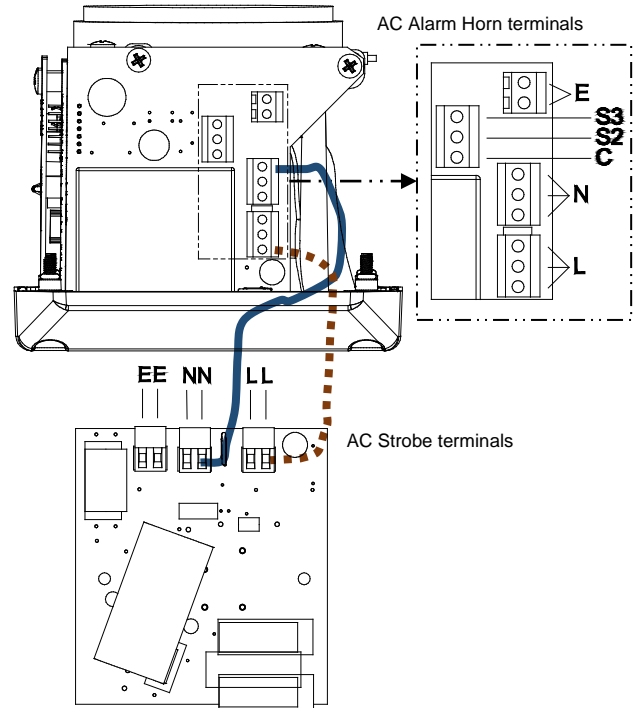
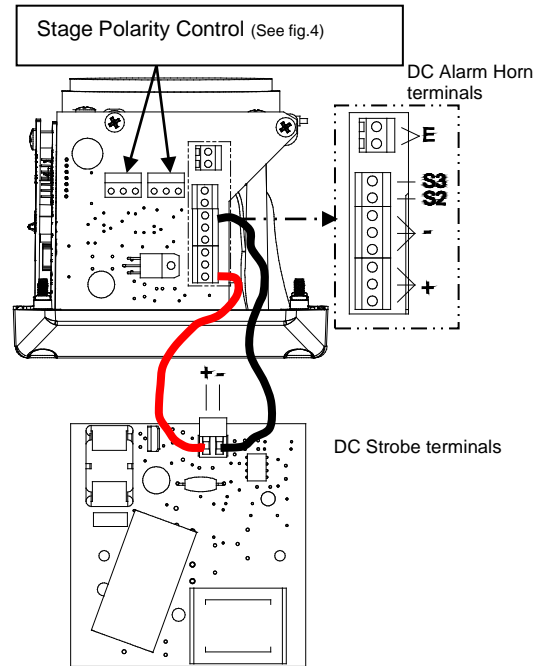

Fig. 5 AC Terminals
Fig. 8 DC Terminals
- Fit an M20x1.5 suitably rated, certified cable gland or conduit entry into the hole in the enclosure and connect the field wiring to the appropriate alarm horn terminals as shown in section 9 and fig 8 (DC) or section 8 fig 5 (AC) of this manual. The power supply terminals are duplicated so that horns may be connected in parallel and for DC units only an end of line monitoring resistor may be fitted. If the second M20x1.5 entry is not used a suitably rated, certified stopping plug must always be fitted.
Stage one (S1) operation: Simply connect the supply voltage to the L and N supply terminals, (see fig. 5). The Strobe is powered via factory installed wires connected to the sounder. The wires connecting the alarm horn and strobe can be removed if the user wishes to power the strobe separately.
Stage one (S1) operation: Simply connect the supply voltage to the + and - supply terminals, (see fig. 8). The Strobe is powered via factory installed wires connected to the alarm horn. The wires connecting the alarm horn and strobe can be removed if the user wishes to power the strobe separately.
Internal earthing connections should be made to the internal earth terminal on the PCBA, (please see fig 5 for AC, fig 8 for DC). The earth conductor should be at least equal in size and rating to the incoming power conductors. The internal earth bonding wire connects the two PCBA earth terminal to the internal earth terminal in the enclosure back box.